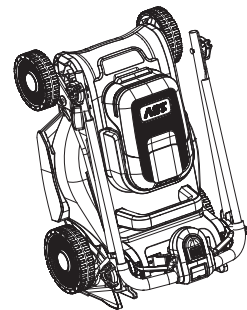

Fig. 27
- Store the lawn mower flat or upright (Fig. 27).